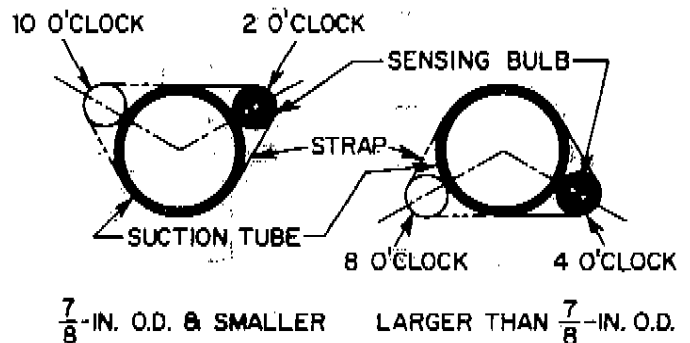

Fig. 6—Positioning of Sensing Bulb
5. Position sensing bulb on horizontal portion of suction tube adapter. Secure using supplied hardware. Insulate bulb after installation. (See Fig. 6.)